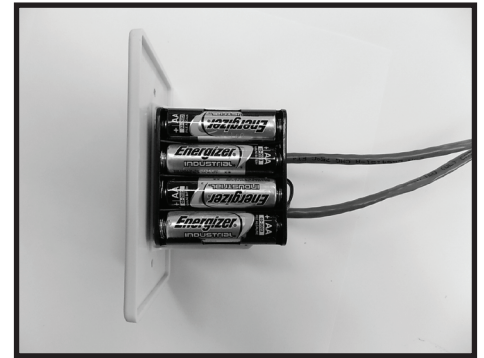

Figure 27: Wall switch - battery side.
9. Insert the 4 supplied "AA" batteries into the battery pack of the wall switch (Figure 27)